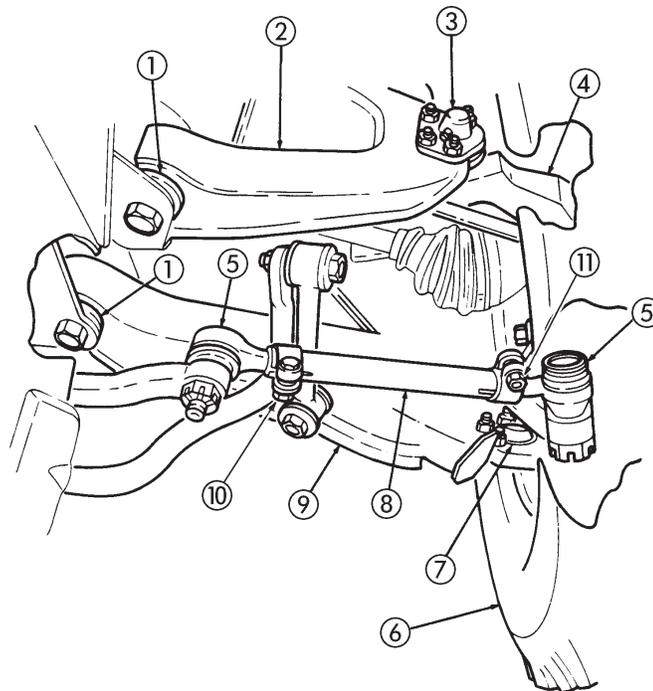

Figure 7-6. Toe-in/Front Wheel Check
e. Toe-in Adjustment (Figure 7-6)